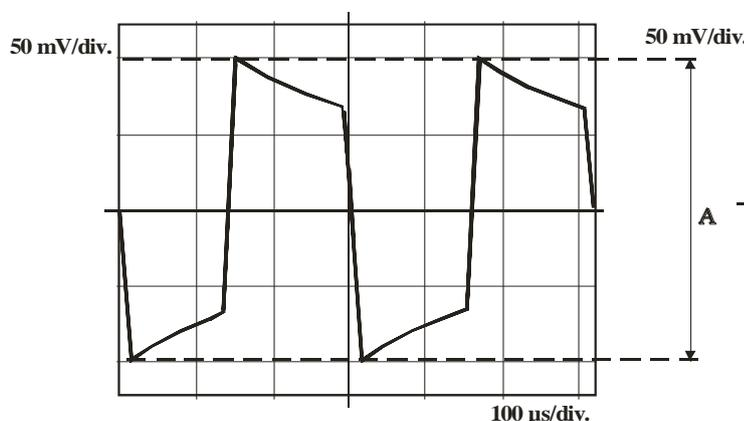
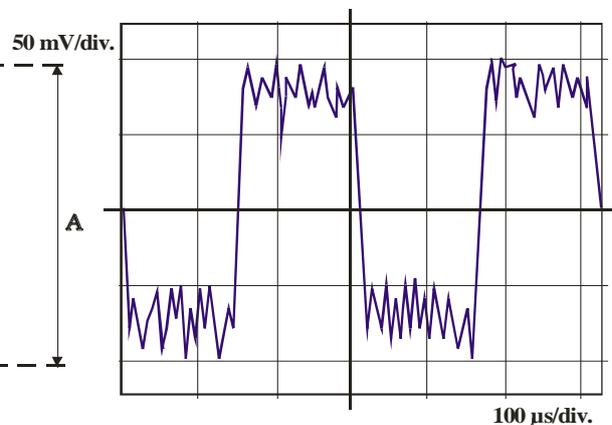

Figure 13 - Correct waveform
Figure 14 - not correct waveform (excessive noise)
- o) Press key "**buzzer**" (15) until the buzzer enabling led "**buzzer On**" (16) is on. When there are no movements in the protection field check that the buzzer is mute. If otherwise, press key "**↓ buzzer adj.**" (14) till it turns off. If when activating the function the buzzer is already mute press key "**↑ buzzer adj.**" (13) till an intermittent operation is obtained, afterwards slightly press key "**↓ buzzer adj.**" (14) till it switches off.
- s) The STC 95 is provided with an **RCA** (23) connector which, through the cable supplied, allows to check the wave form of the received signal. An oscilloscope (any of the types present on the market) is utilised for this check. A good connection between the transmitting head and the receiving head produces the waveform illustrated in fig. 13.
A bad installation produces the waveform illustrated in fig. 14.
Note the noise at the tip of the square wave. This means that the signal is not good. Therefore, repeat the pointing operations till the waveform shown in fig. 13 is obtained. In case of bad barrier installation the waveform will be like the one in fig. 14. All the data concerning the tests made on the plant must be reported on the test sheets supplied for each barrier. This will make the servicing operations easier to carry out.